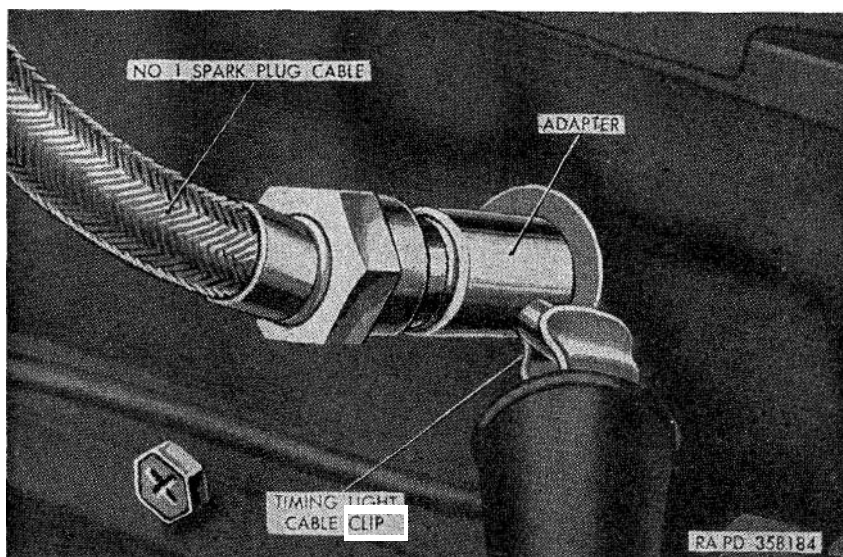

Figure 77. Timing light adapter—installed.
c. Unscrew the terminal nut securing the spark plug cable assembly to the No. 1 spark plug (fig. 40), and disconnect the cable. Push the timing light adapter (fig. 77) over the spark plug and connect the cable to the adapter. Connect one timing light terminal to the adapter and the other terminal to a convenient ground.